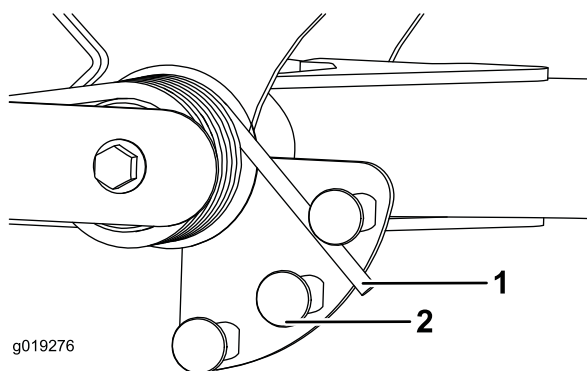

Figure 33
2. Insert a tube or similar object onto the long spring end and pivot it around the spring actuator to the desired position (Figure 33).